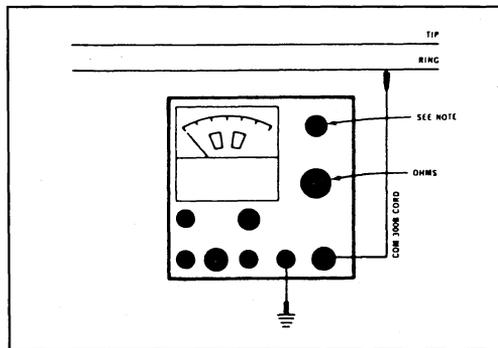

FIGURE 17
4.05 The capacity balance of a pair can be visually determined (an audible capacitance balance test may be performed with the optional COM 400 cord, described below) by connecting the COM 300B cord clips as shown in Figure 17. Operate the Range switch from X1 to X1000 and carefully note the exact maximum point of deflection. Move the clip of the COM 300B cord to the other side of the pair and again operate the Range switch from X1 to X1000 and compare the deflection. On a good balance pair, the readings will be identical.